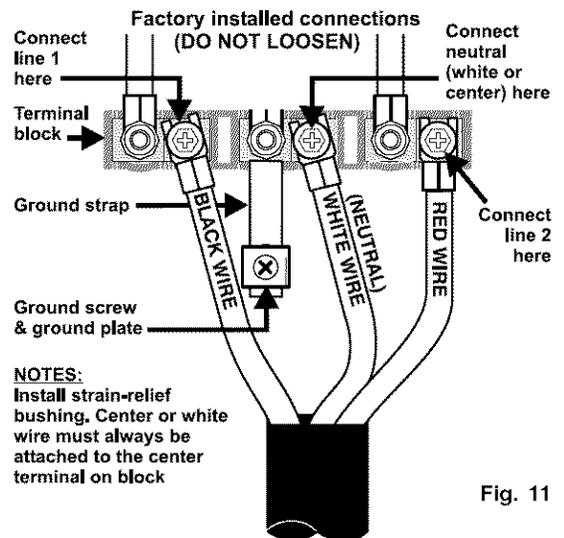

Fig. 11
2. Insert the end connectors for Line 1, Line 2 and Neutral and tighten securely to the terminal block (See Fig. 11).
Grounding Instructions: A ground strap is installed on this range which connects the center terminal of the terminal block (Neutral) to the range chassis. The ground strap is connected to the range by the center, lowest screw (See Fig. 11). The ground strap must not be removed unless National, State or Local Codes do not permit use of a ground strap.